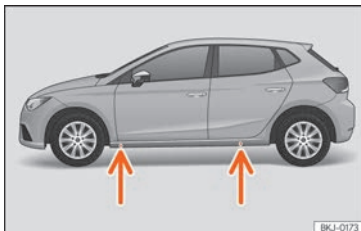

Fig. 191 Jack position points.
- Look on the strut for the mark of the jack support point (sunken area) closest to the wheel to be changed >>> Fig. 191.